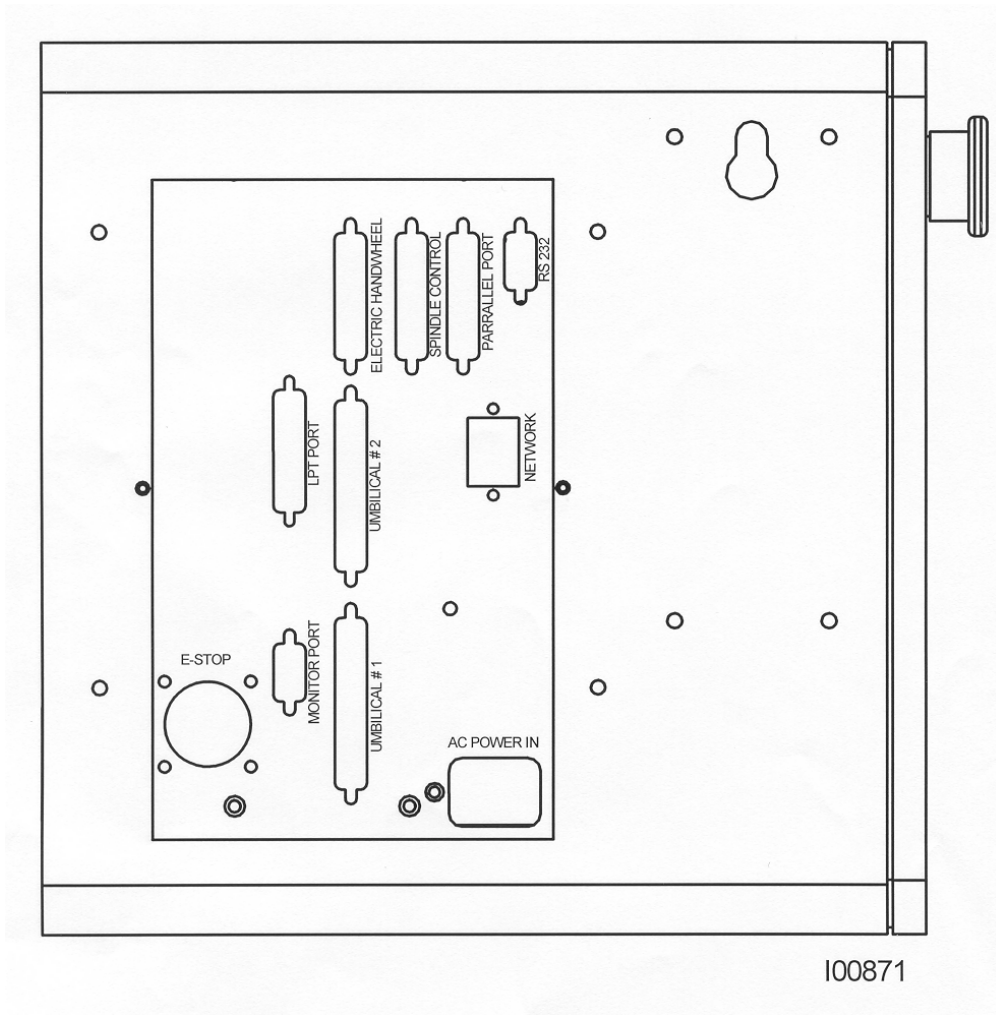

FIGURE 3.2 The ProtoTRAK SM CNC left side with connectors labeled
3.2 Pendant Left Side (See Figure 3.2 for a description of the left side panel of the display.)